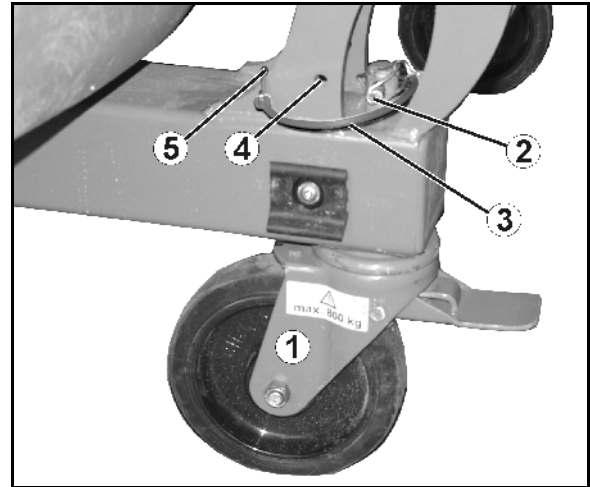
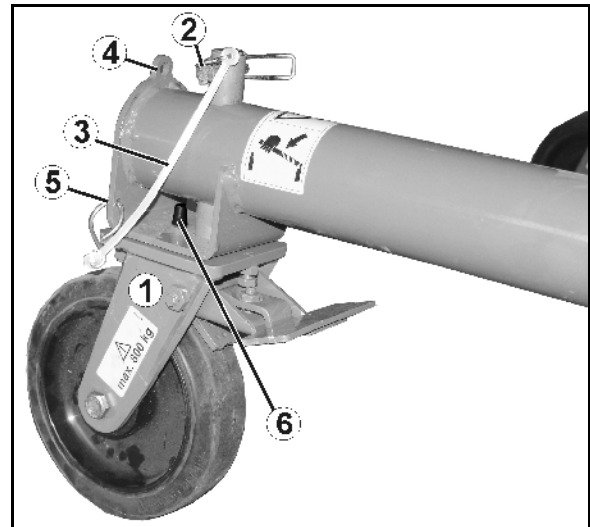

Fig. 55
Fig. 56
5. **Front steerable** castors (Fig. 55/1) / **fixed rear** castors (Fig. 56/1)
- o Fit and secure with a clip pin (2) or
When installing the fixed castors ensure that the pin (Fig. 56/6) goes through the hole in the frame, thus holding the castors in a longitudinal orientation.